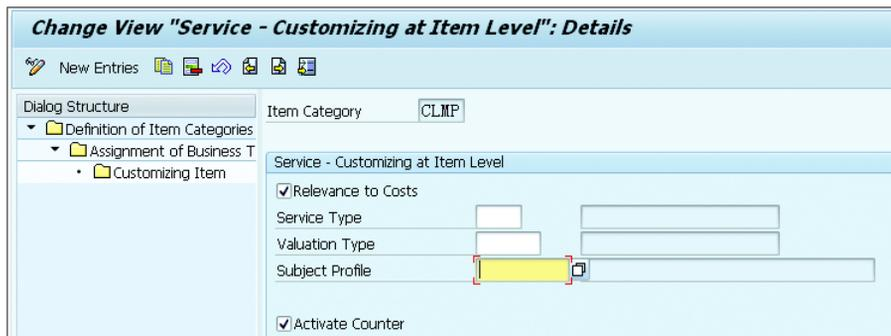

Figure 7.39 Service Customizing at the Item Level
2. Figure 7.39 shows the business transaction category details for the service process where you can assign the SERVICE TYPE, VALUATION TYPE, and SUBJECT PROFILE.